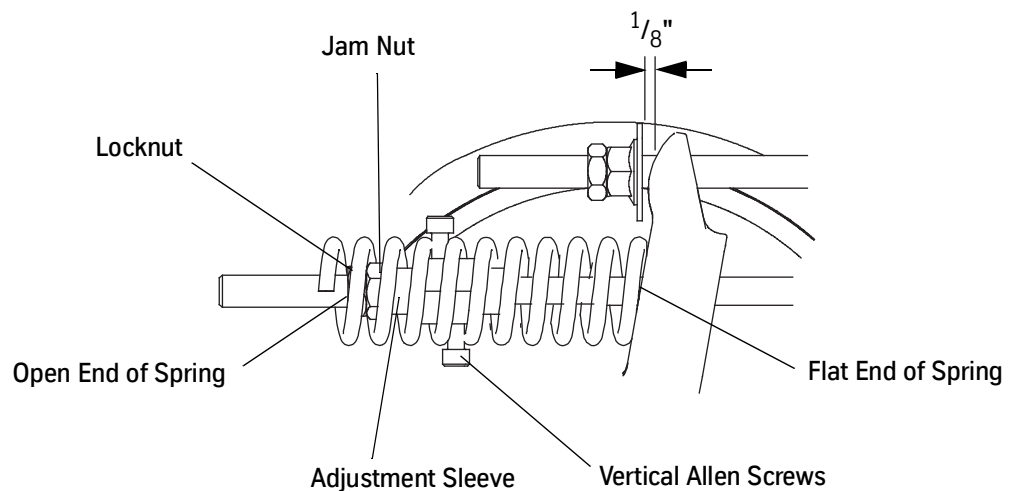

Figure 3 - Spring Tension and Stop Clearance Adjustment
1. Place the springs and adjustment sleeves for the face rollers over the studs. Ensure that the studs are straight and tight. See Figure 3 for all steps in this procedure.